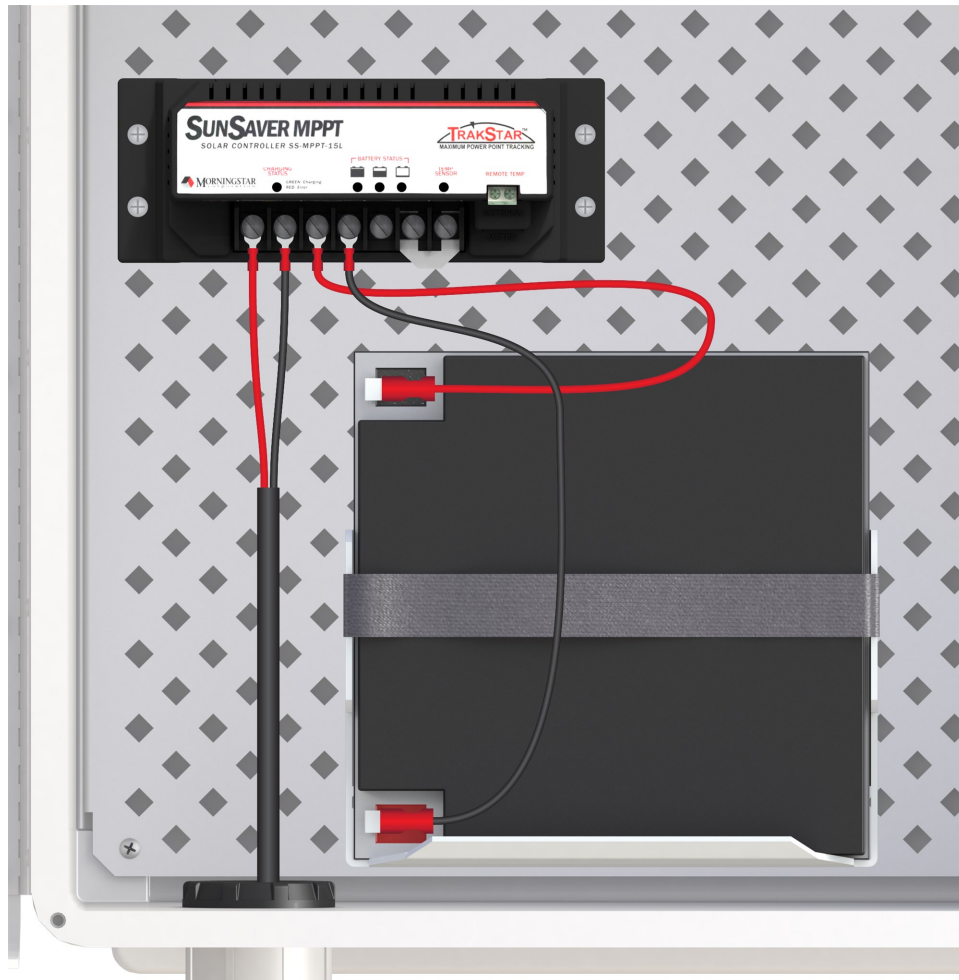

FIGURE 3-22. Morningstar's SunSaver™ SS-10-12V Regulator mounted on an enclosure backplate
1. Using the supplied mounting hardware, install the Morningstar SunSaver regulator to the mounting plate of an environmental enclosure (see FIGURE 3-22 (p. 23)).